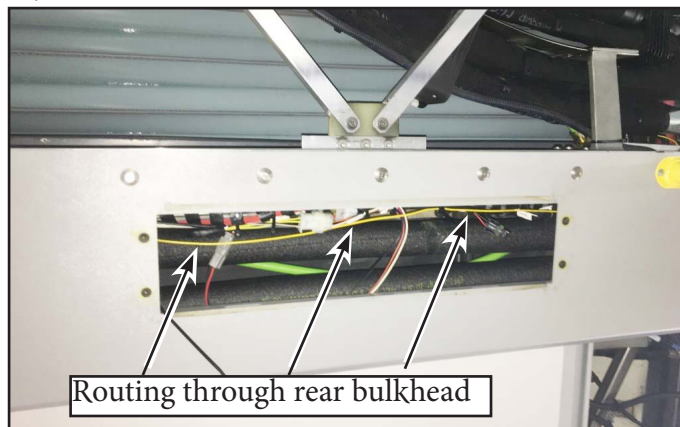

Figure 25 - Front-to-Back Cable Routing in the Rear Bulkhead Area
- 2.12. Continue routing and tie-wrapping the front-to-back cable through the rear bulkhead towards the next curbside baselight (see Figure 25).